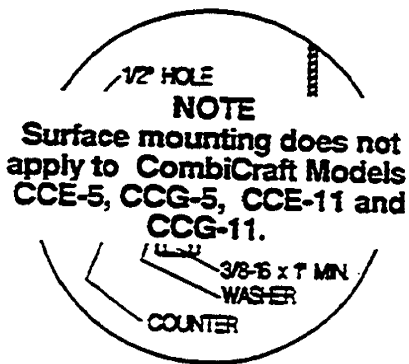

Figure 2-4. Counter Top Mounting Hardware
5. Install mounting screws, nuts, and washers as shown in Figure 2-4. The screws should be long enough to pass through the washer, counter, shims, and nut without projecting more than 1/2 inch above the weldnut. Thread the screws only a few turns into the nuts, leaving enough play for leveling the unit and sealing the mounting holes.